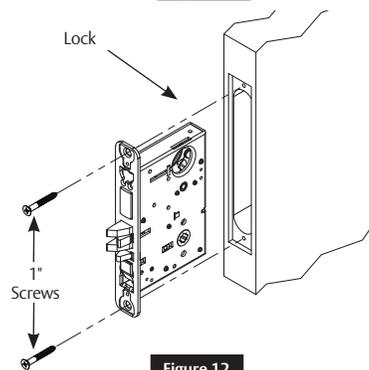

Figure 12
3. Insert mortise lock into door, and temporarily hand tighten two (2) 1" combination screws. (Figure 12)